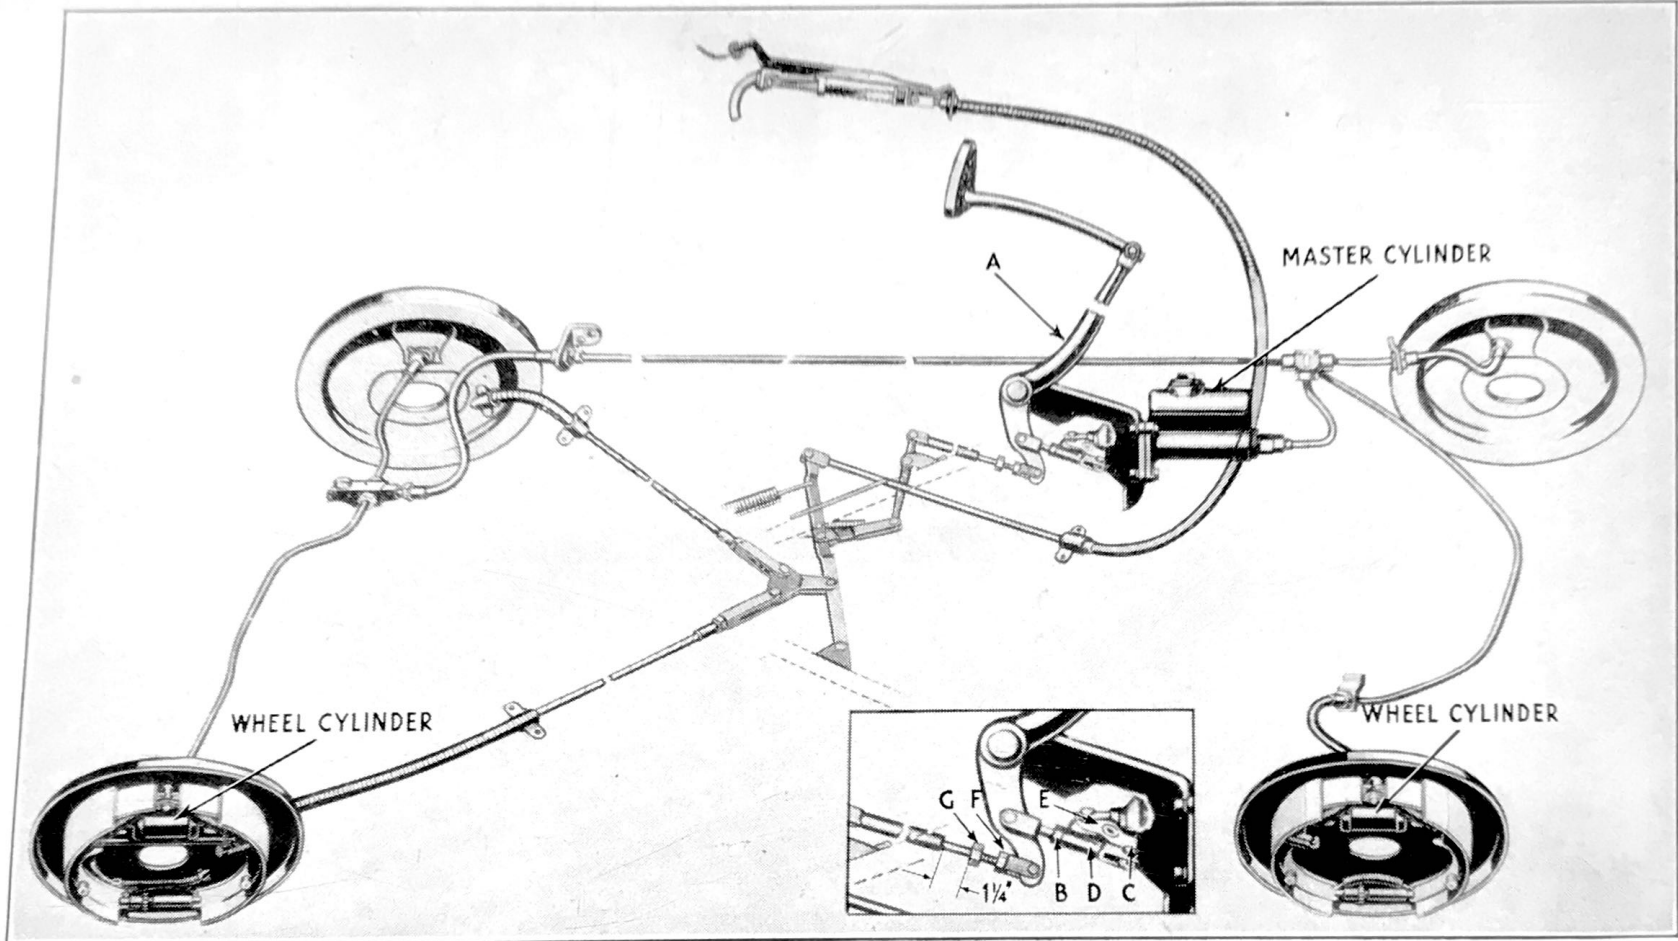
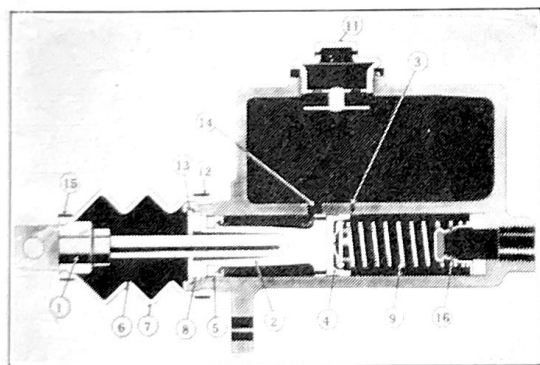

Figure 47
Figure 49
Patented Double-Safe Hydraulic Brakes, incorporating a reserve mechanical system operating from the same brake pedal, are used on all models, see Fig. 47.
Hydraulic Operation—As the brake pedal is applied pressure is exerted on the brake fluid in the hydraulic system by the forward movement of master cylinder piston (2), Fig. 49. The pressure thus created in the hydraulic system forces the pistons of the wheel cylinders, Fig. 47, outward, spreading the brake shoes. To assure proper return of shoes to normal position when brakes are released, there must be at least $\frac{1}{4}$ inch clearance between brake pedal shank (A), Fig. 47, and floor board. See "Brake Pedal Adjustment," page 68.
As the presence of air in the Hydraulic System causes spongy pedal and poor braking operation, the self-compensating type master cylinder, Fig. 49, must be kept at least half full of fluid at all times. The filler cap (11) and the area around it should be carefully wiped off before removing it to preclude the possibility of dirt getting into the hydraulic system. Be sure to consult your Authorized Hudson Dealer when brake service of any kind is desired.
Mechanical Follow-up on Rear Wheels—If for any reason the hydraulic system should become inoperative when the brakes are applied, **continued pressure on the same pedal** will automatically apply the rear wheel brakes for an emergency stop. This is accomplished through a mechanical reserve system operated by rotary-equalized steel cables attached to the same push rod arrangement used when applying the Hand Parking Brake, (see Fig. 47). To adjust, see "Pedal Push Rod Adjustment," on this page.
Brake Pedal Adjustment—To assure full return of the brake pedal to relieve the pressure in the hydraulic system and preclude the possibility of brake drag, at least $\frac{1}{4}$ inch clearance must be maintained between pedal shank (A), Fig. 47, and floor board.
In the event less sensitive brake operation is desired, particularly at low speed, the brake pedal link (D), Fig. 47, may be changed to the alternate or left hand hole in the master cylinder operating lever (E). This results in a harder pedal due to shorter travel on application. In production the link is assembled in the right hand hole for soft pedal action.
With master cylinder operating lever (E), Fig. 47, against its stop, loosen brake pedal push rod adjusting end lock nut (F) and turn push rod (G) until rear face of the hex is $1\frac{1}{4}$ inches from front end of pedal push rod. Tighten lock nut (F) securely.